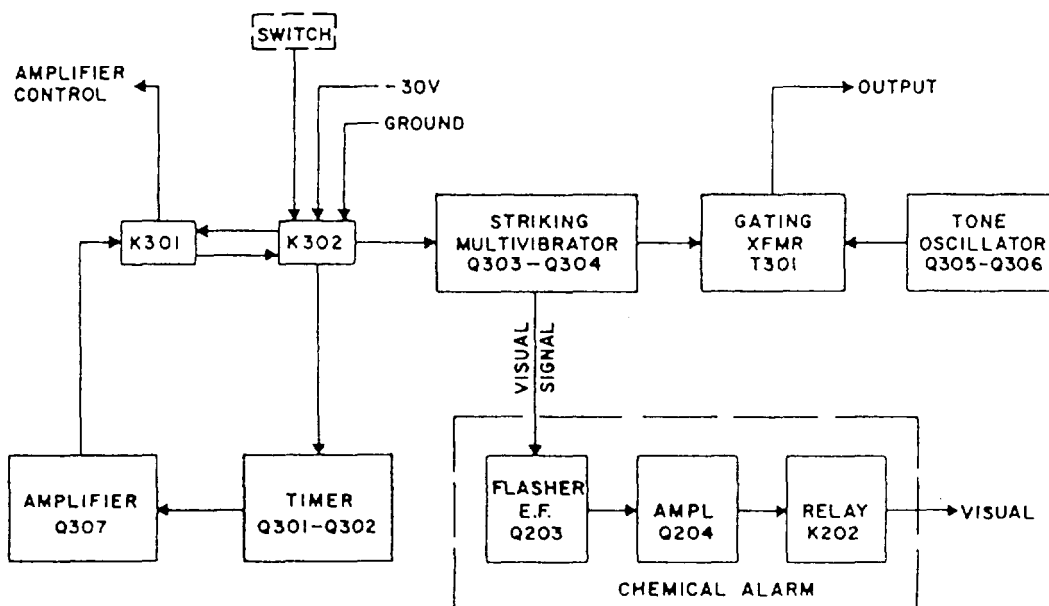

Figure 7-13.—Block diagram of the general alarm module.
**GENERAL ALARM.**— The general alarm consists of a 400-cycle per second rectangular wave oscillator coupled through a gated transformer. A striking multi vibrator supplies current to a diode across the gating winding of this transformer that produces the decaying characteristics of a gong. A timing multivibrator and relay holds the operating relay in the operating position for a period of 10 to 15 seconds after the alarm contact maker is released. Figure 7-13 is a block diagram of a general alarm module. Operation of